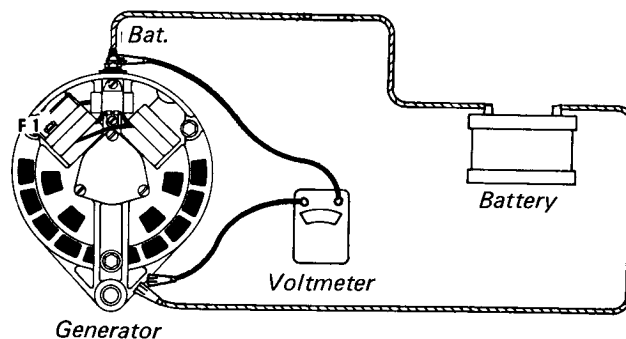

Fig. 2
Step 2. Connect voltmeter from battery terminal to alternator case. See Fig. 2. Battery voltage should be seen on the voltmeter. If battery voltage is not seen there may be a wiring problem from battery to alternator.